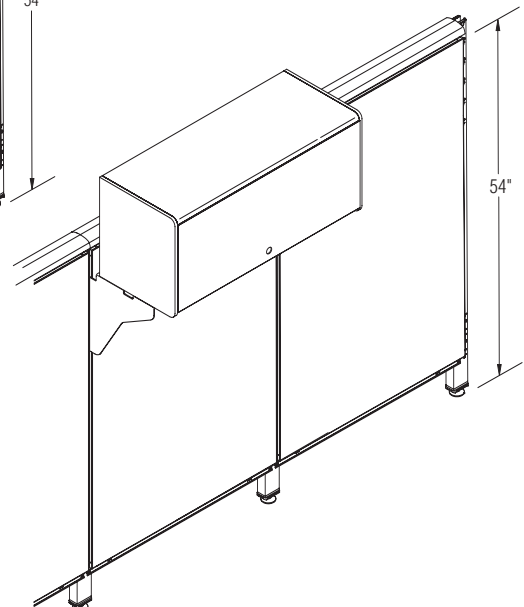

Figure 4
5. Position overhead cabinet on top of brackets aligning the four round holes in each bracket with the four $\frac{1}{8}$ " diameter pilot holes in the cabinet (Figure 4).